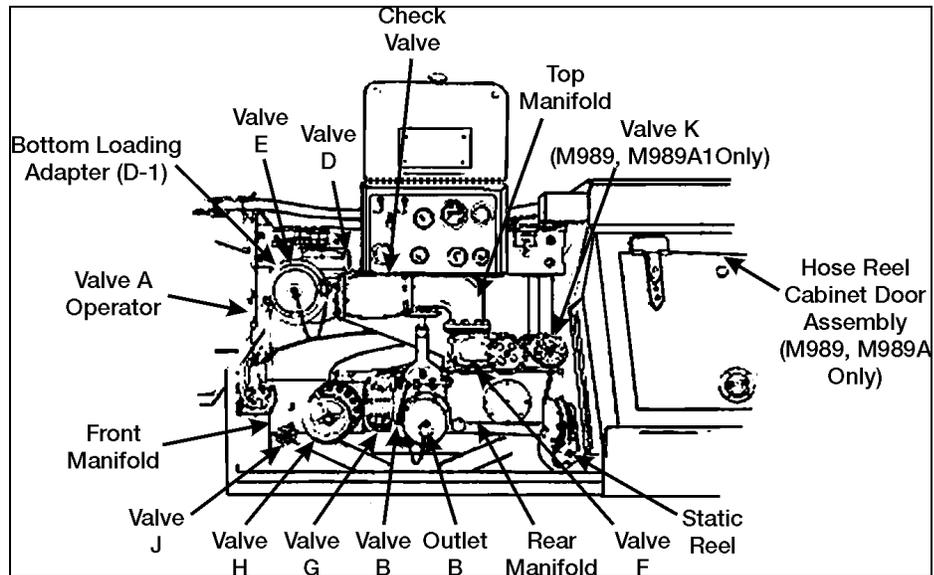

Figure 3-68. Engine and Pump Assembly
b. Starting the engine (see Figure 3-68).
- (1) Rotate engine switch to RUN. When engine is warm or restarted after short periods of time, preheating is usually not necessary. In temperatures below 30°F, a longer preheating period is needed.
- (2) Rotate pre-heater switch to ON for about 1 minute. Ensure indicator light has illuminated.
- (3) After 1 minute, continue to hold pre-heater switch and rotate starter switch to START.
- (4) Release both starter and pre-heater switches after engine starts.
- (5) Check the gauges for correct indication. Stop the engine if a system malfunction is indicated.